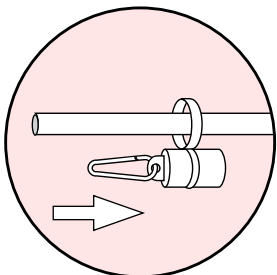
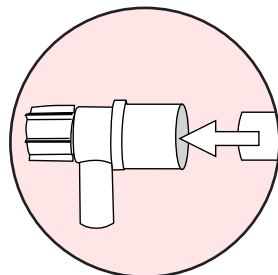
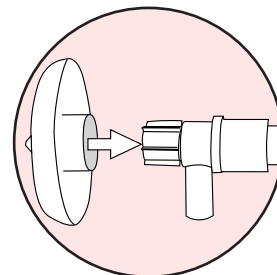

Fig 5a.
Fig 5b.
Fig 5c.
6. Place weight over pole (see fig 5a), mount rotating joint onto top of pole (see fig 5b), push on finial. (see fig 5c)